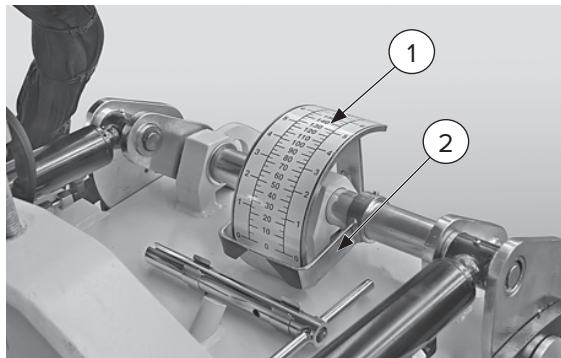

Figure 8
3. Use the depth indicator [Figure 8, Item 1] and the reference rod [Item 2] to define the depth reached.